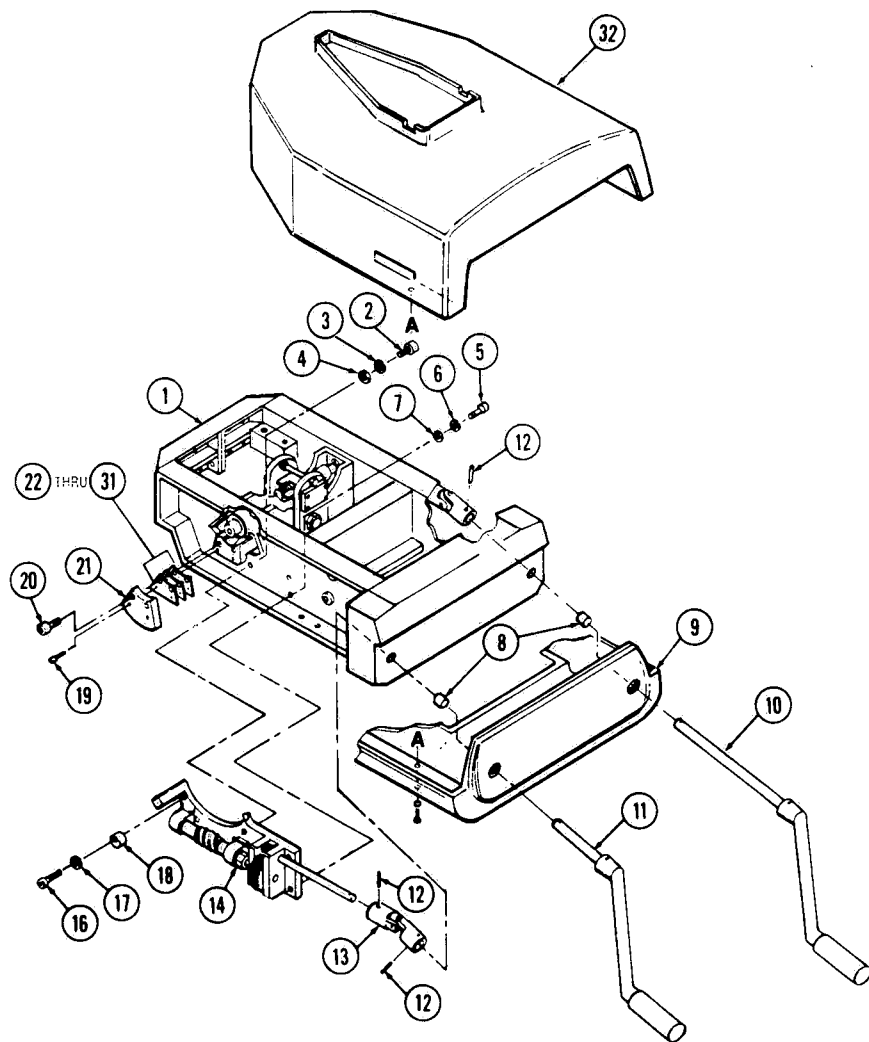

Figure 3. SUPERSTRUCTURE ASSEMBLY (Part 2 of 2).
- Figure 3. TABLE SUPERSTRUCTURE ASSEMBLY (Part 2 of 2).